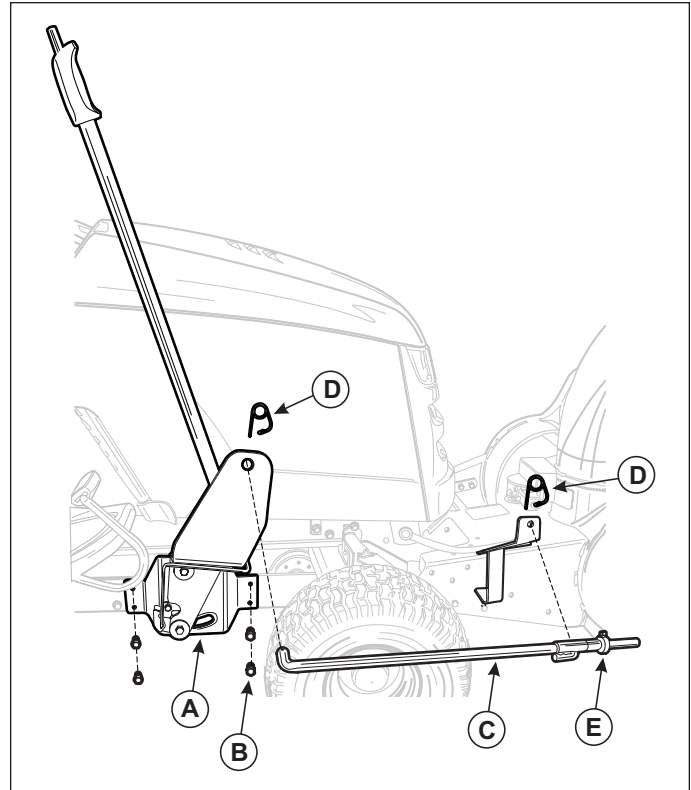
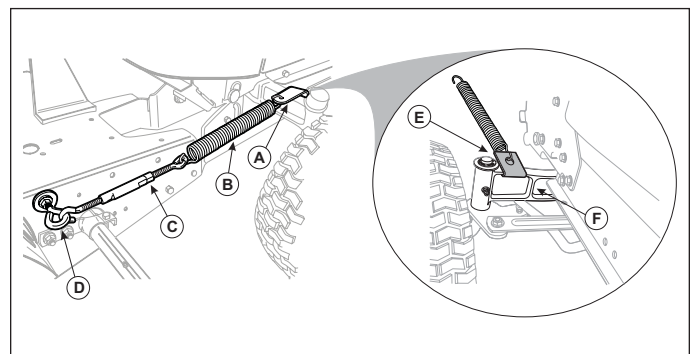

Figure 17. Lift Arm and Linkage
Figure 18. Lift Assist Spring Assembly
1. On right side of tractor, remove the four (4) hex bolts and nuts (B, Figure 17) from hitch assembly.
2. Attach lift arm assembly (A) to the tractor frame using the four hex bolts (B) and nuts.
3. Install Lift Arm linkage (C) as shown and secure with quick clips (D).
4. Adjust the lifting collar (E) to make sure that the snow thrower is lifted clear of the ground for transportation.
5. Assemble lift assist parts; attach spring (B, Figure 18) to turnbuckle (C) and axle clamp (A).